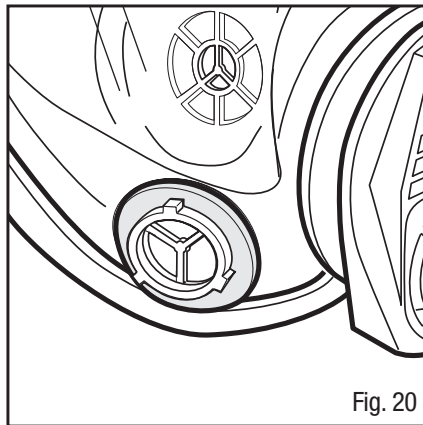

Fig. 20
2. Install new gaskets onto facepiece inhalation port bayonet fittings. Be certain gaskets are in proper position under all three bayonet lugs (Fig. 20).